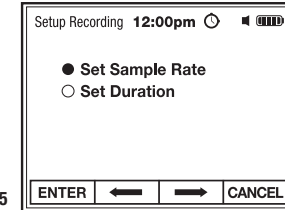

Fig. 5
2. Use the soft keys to select and ENTER Set Sample Rate or Set Duration (Fig. 5).